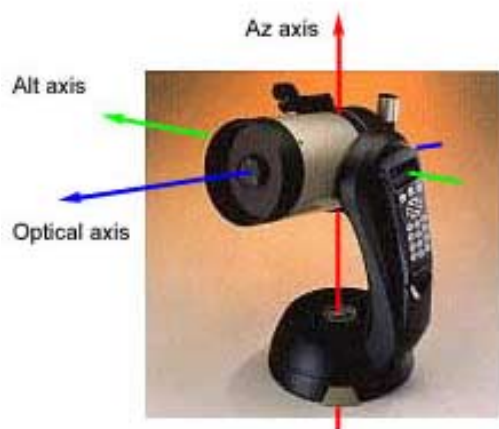
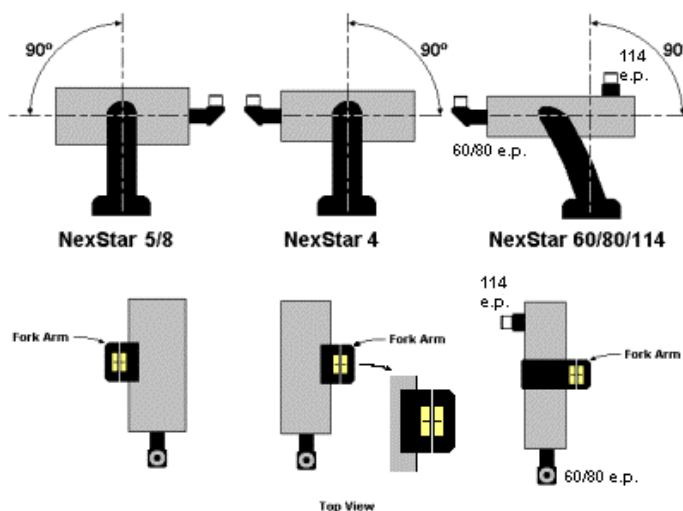

Fig. 1. NexStar axis definitions.
Fig. 2. Proper orthogonal set-up of OTA and Az axes for various models of NexStar telescopes.
Figure 1 defines the three axes of the telescope, while Figure 2 shows precisely what we mean when we say “make the OTA axis orthogonal to the Az axis” for each of the current NexStar telescopes. In Figure 2, note the alignment marks shown in the close-up. The marks are depicted as the small lines on two pieces of yellow tape, one piece on the fork arm, the other on the OTA bracket. Please refer to this close-up when reading the *Marking Zero* section towards the end of this document.
Start with the plain tripod (before mounting the OTA). On the Celestron N4/5/8 tripod, place the level alternately across the tops of the three Phillips head (cross-slotted) screws on the top surface. On the N60/80/114 tripod, place the level alternately across the tops of the legs, while resting on the flat surface of the mounting “cup”. Adjust the legs until the bubble lies between the lines on the glass, no matter which pair of screws the level is on. Now, mount the OTA onto the tripod. (Figure 2 shows the correct relationship between the OTA, the eyepiece, and the arm assembly for those NexStar owners whose scopes have removable OTAs — they can be put in backwards or even upside down.)
equal to zero (see Figure 2). Making these two axes of the scope orthogonal is **extremely** important to achieving good GoTo results, and it **must** be done for **both** the Auto-Align and the Two-Star Align processes!
At this point, press Enter to conclude either the “North and level” or the “Level the tube” step. Let me emphasize again that care taken now to get the OTA axis orthogonal to the Az axis (as shown in Figure 2) will be amply repaid with better GoTo results later!
*Marking Zero* — As said above, getting the OTA axis and the Az axis orthogonal is one of the most important steps in achieving accurate GoTos. The best way to accomplish this in the field is to make and use a permanent pair of marks on your telescope. First, take the tripod to a hard level surface, and use a carpenters’ level while you adjust the tripod legs until the top surface of the tripod registers level, no matter how you place the level across the tripod top plate. Second, mount the scope and move the OTA (using Figure 2 as a guide for your scope) until the tube is level as determined by a line level (place the line level on the silver part of the tube, not on the ends). Rotate the OTA through 360 degrees of Az, and move the tube up and down until the line level shows that the OTA is level no matter which Az direction it is pointing. At this point scribe two lines (one on the arm and the other on the filler piece between the OTA and the arm) such that the lines point to each other across the joint. (Some people prefer to place pieces of tape across the joint (or use white-out) as a background on which to make the alignment lines.) One person recommended using one line on the filler piece and two lines on the arm, so that with correct alignment the single line was centered between the other two. He claimed that this was easier for him to see using red light. ***However, be careful when marking!*** Modeling has shown that a 0.2 degree orthogonality error (equivalent to about a 0.25 mm marking error), can yield GoTo errors of up to 1 degree (twice the Moon’s diameter!)